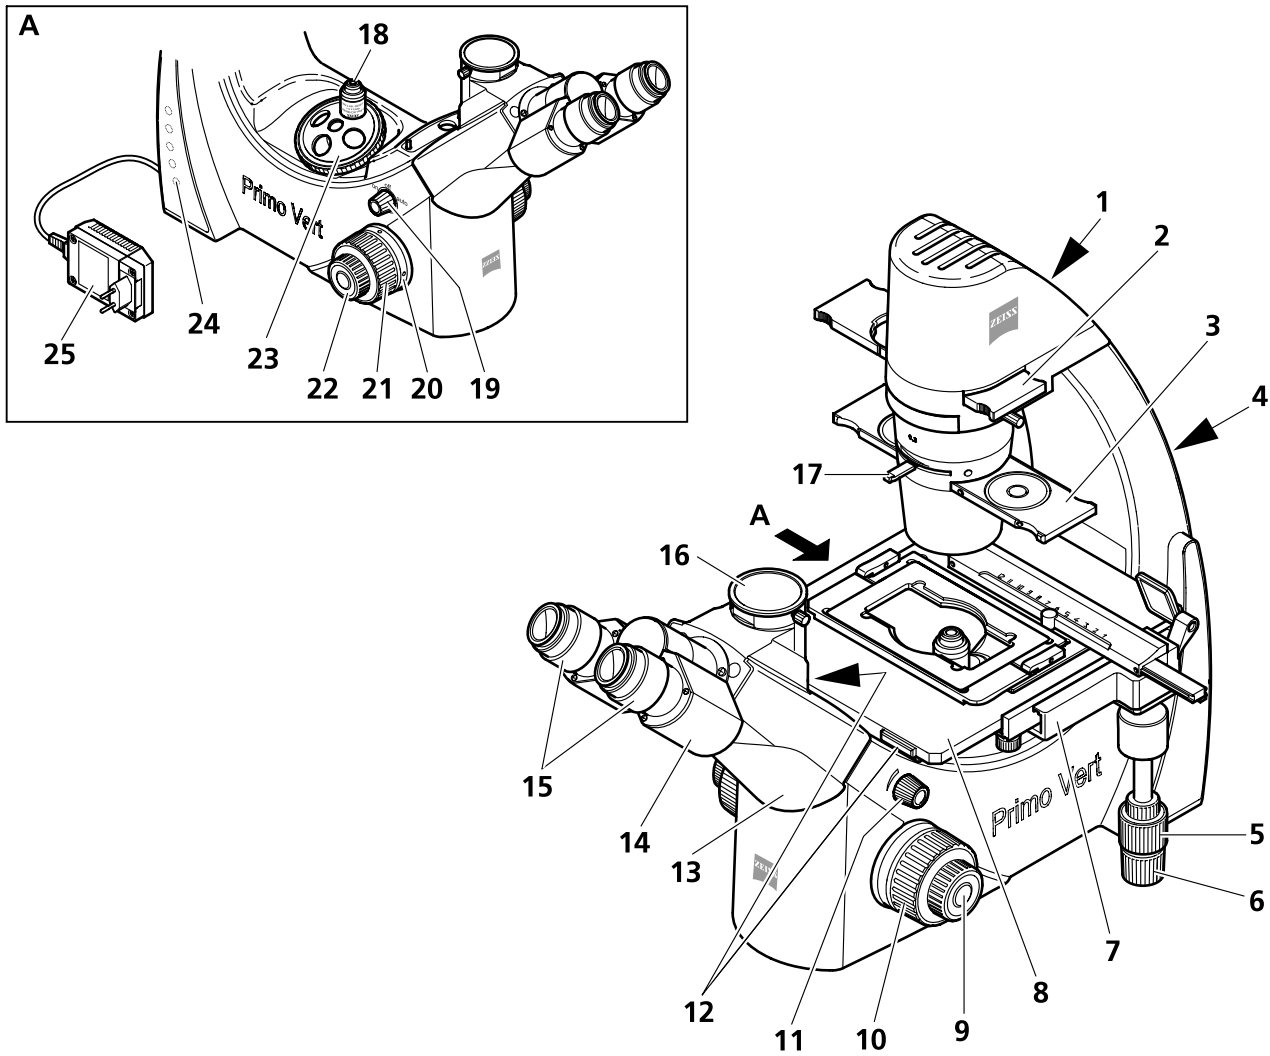

Fig. 10 Operational elements of Primo Vert
Legend to Fig. 10:
- Adjust the desired illumination intensity using the rotary knob (Fig. 10/11).
The selected intensity is indicated in five steps by the blue light-emitting diodes (Fig. 10/24) arranged on both sides of the stand.
- The torque of the coarse focusing drive is factory-adjusted and can be readjusted if required. For this purpose, insert a screwdriver into one of the four radially arranged holes of the ring (Fig. 10/20), hold the coarse focusing knob (Fig. 10/21) in position and turn the ring with the screwdriver to the right or left in order to adjust the torque of the coarse drive as desired.